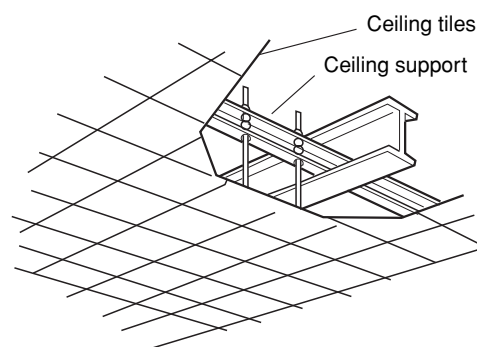

Fig. 3-59
- Use existing ceiling supports or construct a suitable support as shown in Fig. 3-59.